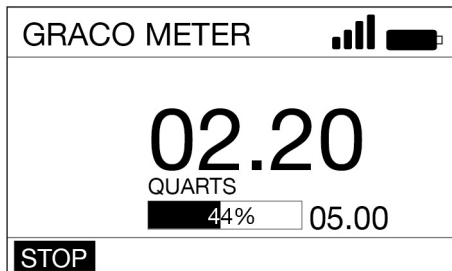

FIG. 34
3. Use the RIGHT or LEFT ARROW to select STOP (J) (FIG. 34). Press the ENTER button.